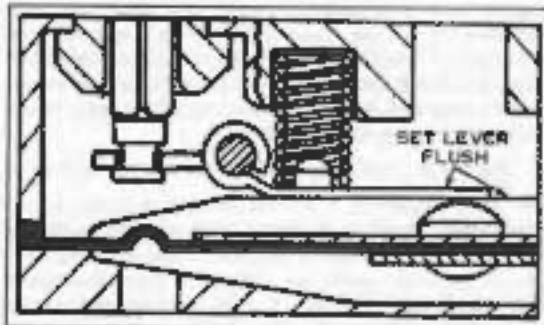

Figure 3-64
9. Inspect inlet needle lever for correct adjustment. It should be flush with surrounding floor of carburetor body. If not equipped with shackled needle, replace with Kit No. 27588-88. Tighten seat to 45 in.-lbs torque. See Figure 3-64.